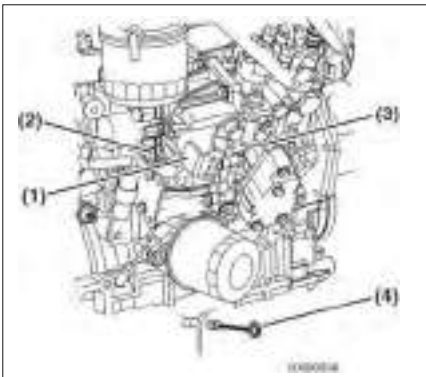

Figure 5-11
1. Check that the governor lever (**Figure 5-11, (1)**) makes uniform contact with the high idle (**Figure 5-11, (2)**) and low idle (**Figure 5-11, (3)**) speed limit screws when the engine speed control is in the high idle speed or low idle speed position.
3. In some engine speed control applications, loosen the throttle cable lock nut (**Figure 5-11, (4)**) and adjust the cable so the governor lever makes proper contact with the high / low idle speed limit screw